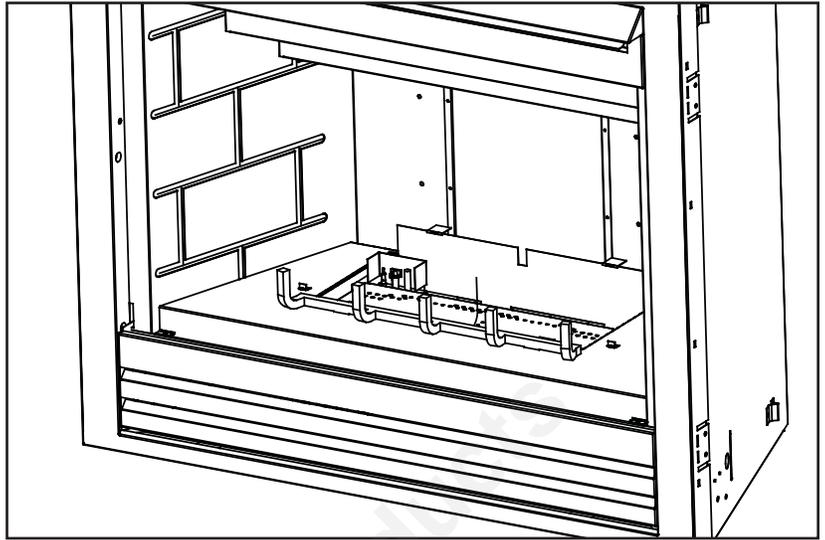

Figure 4
5. Position the grate into the cutout in the refractory. Hook the grate into position using the tabs on the bottom of the grate. Make sure the grate is pulled forward on the refractory (see Figure 4).